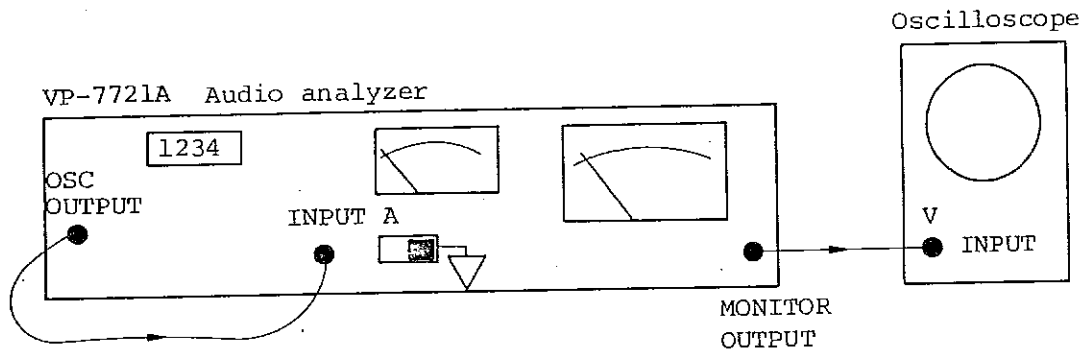

Fig. 4-1 Connection for checking VP-7721A
- 3) Connect the OSC OUTPUT connector to the INPUT A connector of the measurement section to place the analyzer in the self-diagnosis mode. (See Fig. 4-1.) A coaxial cable with BNC plugs is recommended. Set the slide switch (16) to the right for unfloating connection.
- 4) Connect an oscilloscope (1 MHz bandwidth is adequate), to the MONITOR OUTPUT connector (12) as shown in Fig. 4-1. Observing waveforms will help you understand the operation of the analyzer.
- 6) Press the LEVEL key of the MEASUREMENT keys (6) (the LED in the key will light) to select level measurement function.
measurement setup in Fig. 4-1.)
- 34) When the S/N measurement function is enabled with the connection (Fig. 4-1) kept as is and the set state unchanged, the S/N of the analyzer itself will be indicated. The S/N in this case implies the degree of residual noise content.